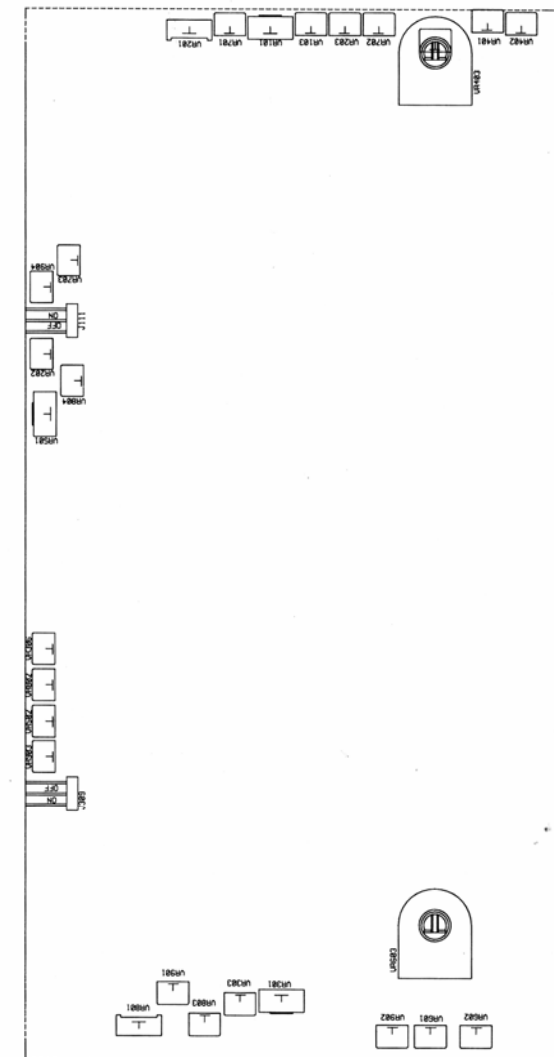

Fig. 6-1. Adjustment Location
(6) Dynamic Load Operation & Application
- A. When select to the dynamic load position, the peak current available is 1.7 times the rated current. This feature is only intended for audio circuits of amplifiers and audio production lines. Change the position of wafers J111 of CH1 and J309 of CH2 from “OFF” to “ON”. Please refer to Fig.6-1: Adjustment Location.
(7) Output ON/OFF Action
If readjustment is required, use the following procedure. The location of the adjustments is shown in Fig. 6-1.